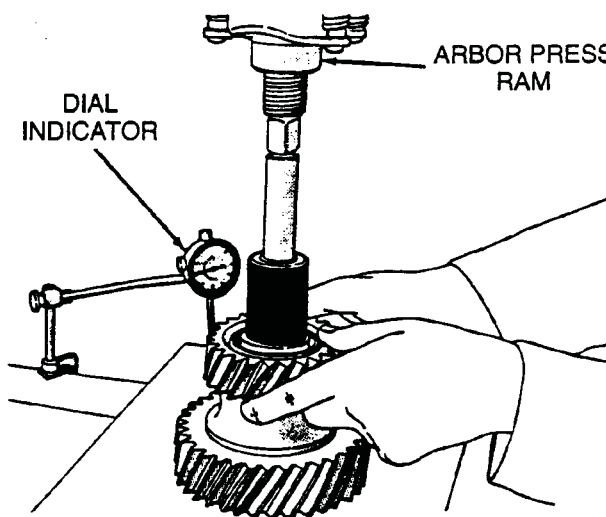

Fig. 2-9 Press in Bearing Caps and Check End Play
1. Using arbor or hydraulic press, install two bearing cups in idler gear (Fig. 2-9).
2. Assemble the two bearing cones, spacer, shims and idler gear on a dummy shaft (Tool DD1272) with bore up. End play should be .000 to .002 inch loose (Fig. 2-9).